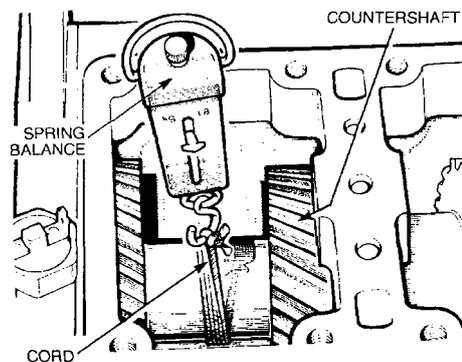

Figure 169 Countershaft Rolling Resistance
- r. Determine if the front bearing pre-load is correct by using a spring balance and cord coiled around the larger diameter countershaft to measure the rolling resistance (Figure 169). With the bearings oiled, the rolling resistance must be 2.7 to 4.0 kg (6 to 8.5 lbs).